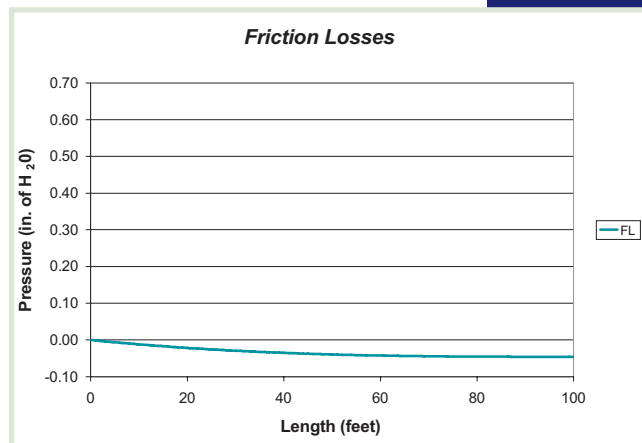

Figure 4: Frictional Losses
Similar to metal ducts, fabric duct systems have friction losses (FL) along straight sections of duct and fittings. The losses, however, are much less than an alternate traditional metal layout. The FL are directly related to the duct diameter and cross sectional velocity. As the air is dispersed along the constant diameter duct length, the cross sectional velocity is decreasing and thus the FL decrease as well, as shown in Figure 4.